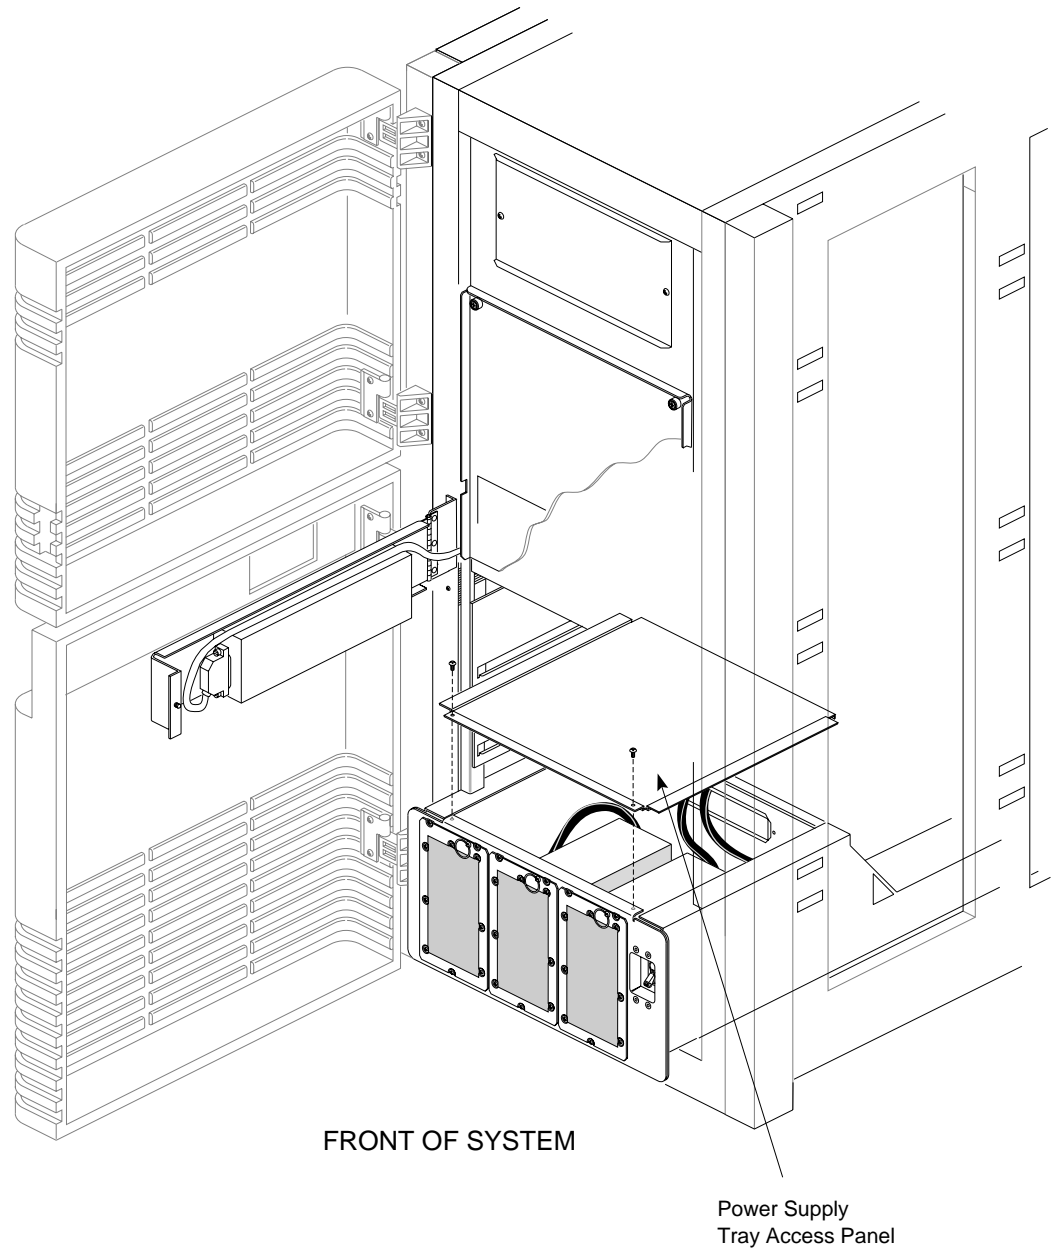

Figure 3-46 Power Supply Tray Access Panel
12. Remove all of the OLSs installed in the power supply tray (three screws per OLS). Locate the four screws securing the power supply tray to the system cabinet and remove them (see Figure 3-46).